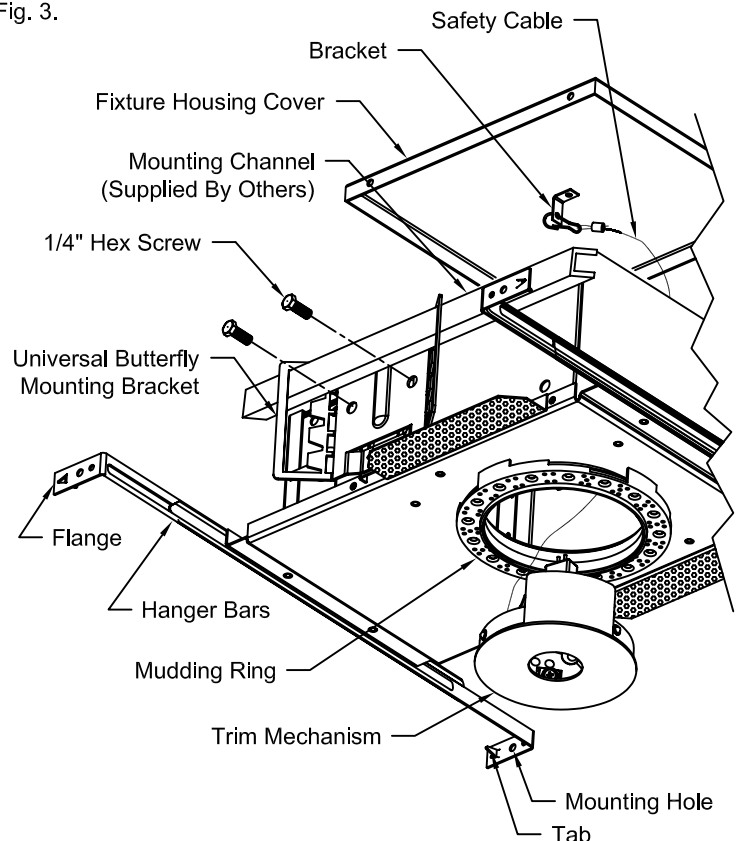
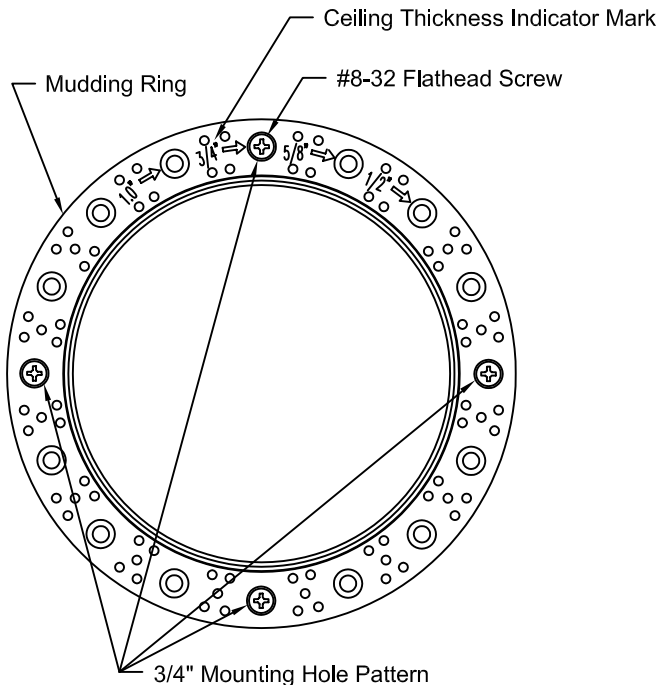

Figure 1
Figure 2
1. Fixture comes equipped with Universal Butterfly Mounting Brackets and can take common 1 inch or 1-1/2 inch Black Iron or Galvanized Mounting Channels (Supplied By Others). See Fig. 1.
3. Hammer Flanges to seat Hanger Bar Tabs in rafters. See Fig. 1.
4. Secure Hanger Bars using one (1) nail in Mounting Hole in each Flange.
5. Mudding Ring is sent unmounted from factory. Adjust Mudding Ring to applicable Ceiling thickness by aligning and securing to Fixture using applicable Mounting Hole Pattern as indicated by Ceiling Thickness Indicator Mark imprinted on Mudding Ring. See Fig. 2.
6. Secure Mudding Ring using four (4) #8-32x1/2 inch Flathead Screws (for 1/2 inch, 5/8 inch and 3/4 inch Ceiling thickness) or four (4) #8-32x3/4 inch Flathead Screws (for 1 inch Ceiling thickness).
7. Adjust elevation of Fixture so Mudding Ring Edge will be flush with surface of finished Ceiling by loosening two (2) 1/4 inch Hex Screws on both Universal Mounting Brackets. See Fig. 1.
8. Tighten two (2) 1/4 inch Hex Screws on both Universal Butterfly Mounting Brackets to secure Fixture. See Fig. 1.
1. Connect Safety Cable attached to Banana Bracket on Trim Mechanism (See Fig. 1) to Fixture by inserting Safety Cable through opening in Fixture and inserting Snap Hook on end of Safety Cable into hole in Bracket attached to inside of Fixture Housing Cover (See Fig. 1).